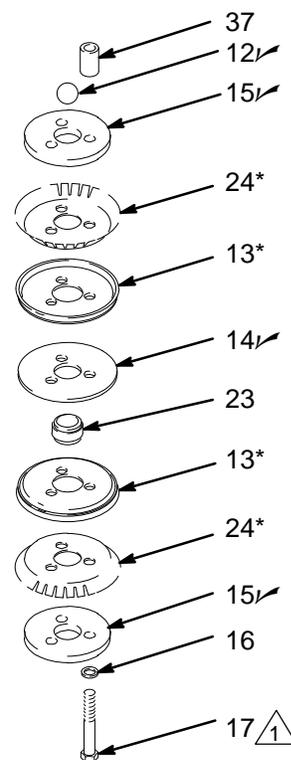

Fig. 4
2 See Fig. 4.
5. Place a washer (16) on each of the three screws (17). Assemble the piston as shown for your pump model (see Fig. 4). Place the piston valve seat (23) in the center of the piston assembly so its lip bottoms out. Continue stacking the parts on the screws (17) as shown. Place the piston ball (12) on the seat (23).
6. Place a piston spacer (37) on each of the screws (17). Apply thread sealant to the screws and screw the piston assembly into the lower cap (38f). Torque the screws (17) to 350–370 in-lb (40–42 N.m). See Fig. 4.